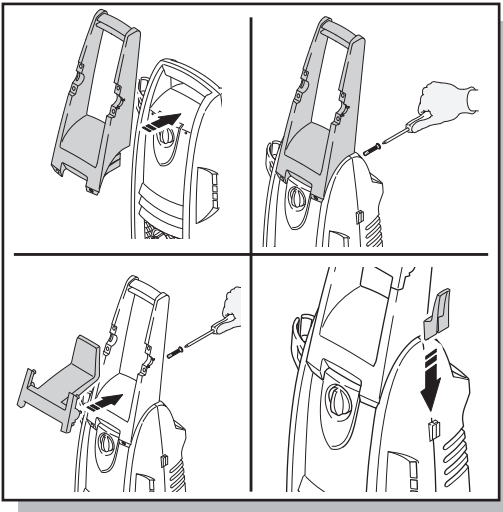
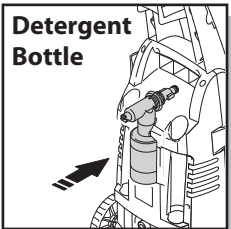

Fig.1
Fig.2
- Install the plastic accessories holder on the back of your **BLUE CLEAN POWER WASHER** (Fig.1). You'll notice where the accessories holder meets the back of the unit there are several male index posts which fit into female holes. The posts and holes enable easy placement of the accessories holder and easy tightening of the screws. Place the screws in the holes provided on the accessories holder and screw them in. Do not use a power screwdriver. When the screw is completely tight (about four to six turns) give a small final clockwise twist of the screwdriver. Do not overtighten. After the accessories holder is installed you will notice a square "hole" approximately in the middle of the holder into which our square detergent bottle may be stored and easily retrieved if you decide to use a detergent in your **BLUE CLEAN POWER WASHER** (Fig.2).
- Using one of the supplied screws install the small electric power cord holder below the accessories holder so that the "L- shaped holder faces downward. The electric power cord can now be wrapped around the accessories holder and the bottom L-shaped holder while your power washer is not in use (Fig.1)